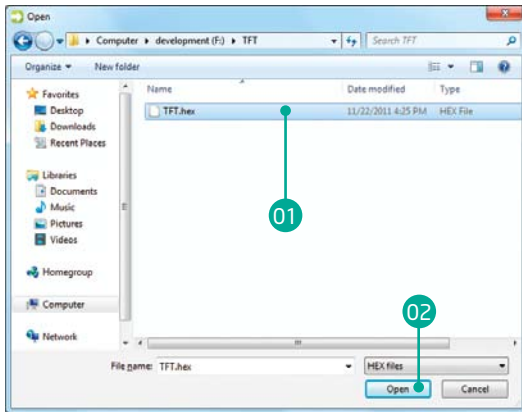

Figure 3-7: Locating and selecting .hex file
- 01 Click the **Browse for HEX** button and from a pop-up window (Figure 3-7) choose a .HEX file to be uploaded to MCU memory